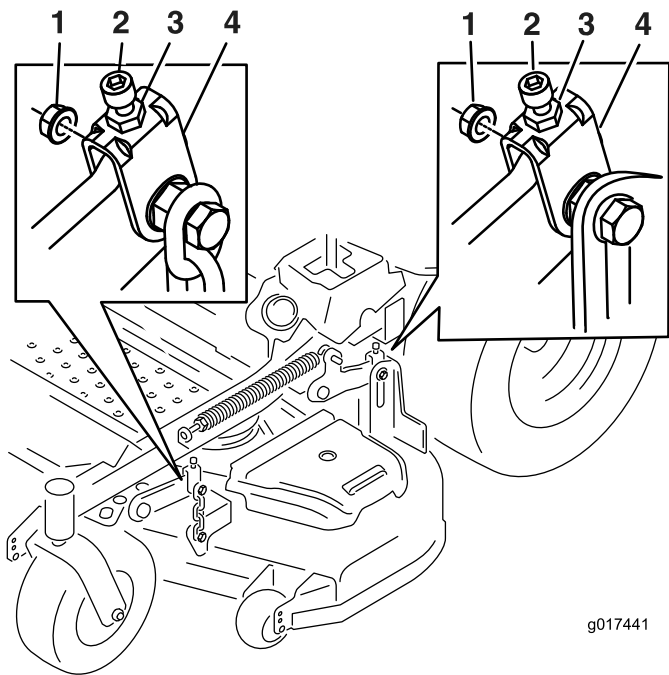

Figure 73
10. If needed, loosen the whizlock nut on the side of the yoke and the jam nut on top (Figure 73).
17. Fine tune the screw adjuster by turning it to get 8.3 mm (3-1/4 inches) height (Figure 73).